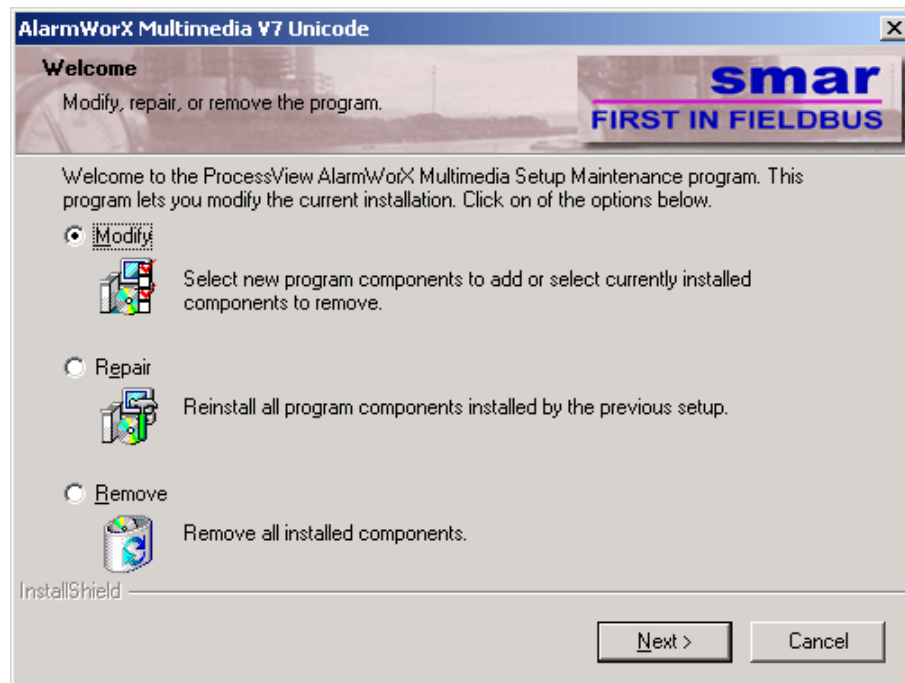

Figure 1.39. Multimedia Setup Options
- This opens a **Setup** dialog box that allows you to select whether to modify, repair, or remove AlarmWorX Multimedia, as shown in **Figure 1.39**.